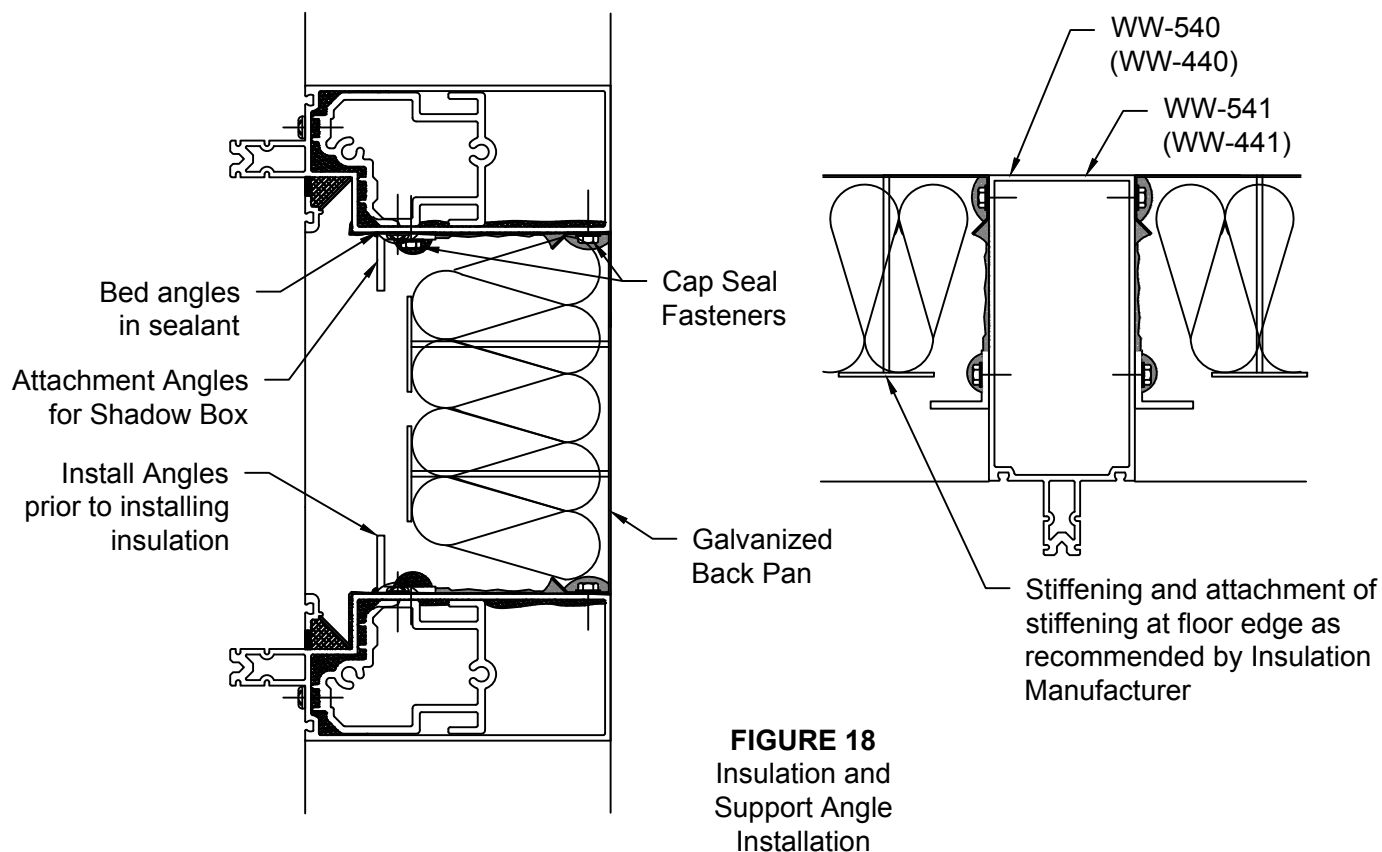

FIGURE 18
- 2.3 Install shadow box attachment angles around perimeter as shown in **FIGURE 18**, page 16. Bed angles in sealant and cap seal attachment fasteners. Note: angles are only required for shadow box application.
- 2.4 Insulation will be placed into cavity. See **FIGURE 18**,page 16.